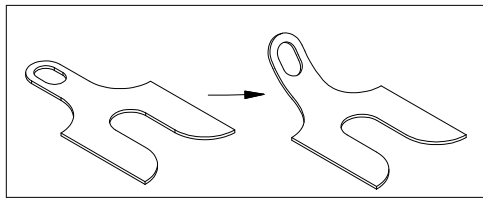
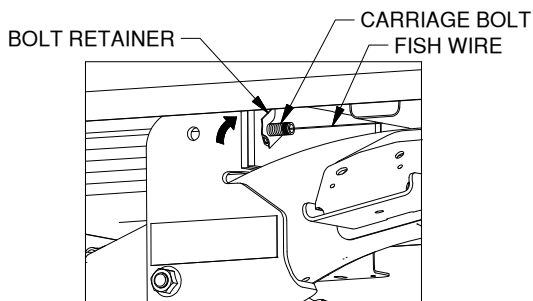

Figure F4: Bolt retainer, before and after.
Figure F5: Carriage bolt installation.
6. **Secure cross members to side plate.** Make a small bend in the tail of one bolt retainer, see Figure F4. Slide the groove of the retainer over the threads as close to the cross member as possible, as shown in Figure F5. Rotate the tool clockwise to temporarily secure the tool to the carriage bolt while the fish wire is removed and the hardware is added.